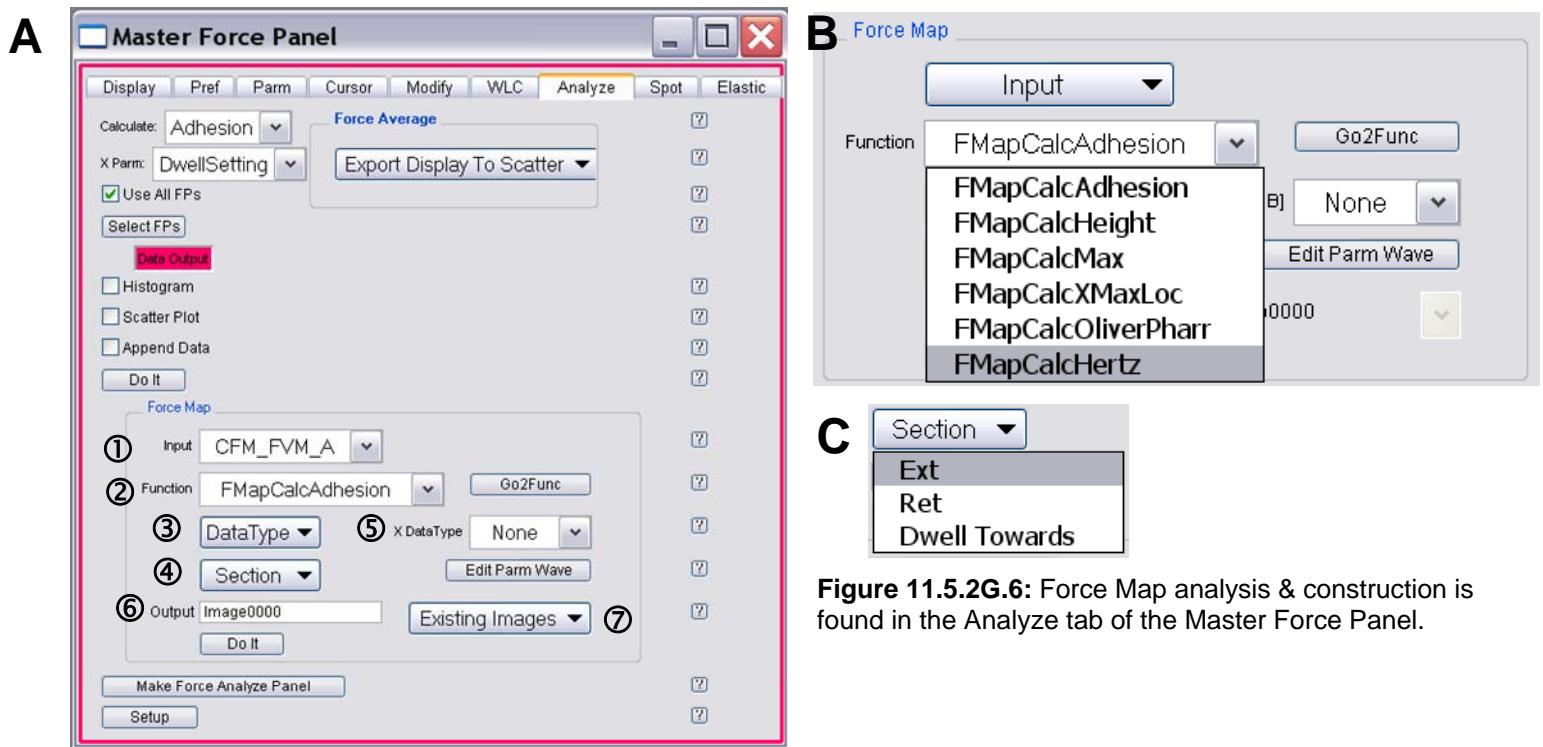

Figure 11.5.2G.6: Force Map analysis & construction is found in the Analyze tab of the Master Force Panel.
- ✓ To produce a Force Map, go to the *Analyze* subtab. Notice at the bottom of the panel, an area called 'Force Map' (Figure 11.5.2G.6B).
✓ In the Input pull – down menu, confirm the data is from the folder just loaded containing the force curves to be analyzed for the Force Map (Figure 11.5.2G.6B).
▪ Figure 11.5.2G.7 shows an example of a Force Map using chemical force microscopy over a μ CP printed pattern of a carboxylic acid terminated thiolate and methyl terminated thiolate, with the carboxylic acid terminated thiolate on a Au coated tip in pH 4.0 buffer (standard pH meter buffer, with out indicator color). The Force Map calculated with the MFP-3D analysis Panel is seen in Figure 11.5.2G.7A; the LFM image of the same area immediately after the force Map was acquired can be seen in Figure 11.5.2G.7B, and clearly correlates the areas of acid hydrophilic (higher force pull off forces in FMap and dark in LFM image) and the hydrophobic areas (lower forces in FMap and brighter colors in LFM image).